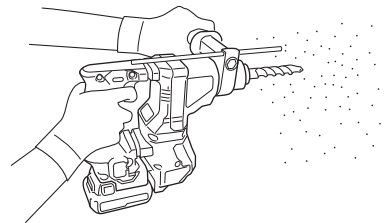

Fig. 19
- (1) Install the drill bit.
- (2) Pull the switch trigger after applying the drill bit tip to the drilling position. (Fig. 19)
- (3) Pushing the rotary hammer forcibly is not necessary at all. Pushing slightly so that drill dust comes out gradually is just sufficient.
When the drill bit touches construction iron bar, the bit will stop immediately and the rotary hammer will react to revolve. Therefore please grip the side handle and handle tightly as shown in Fig. 19.